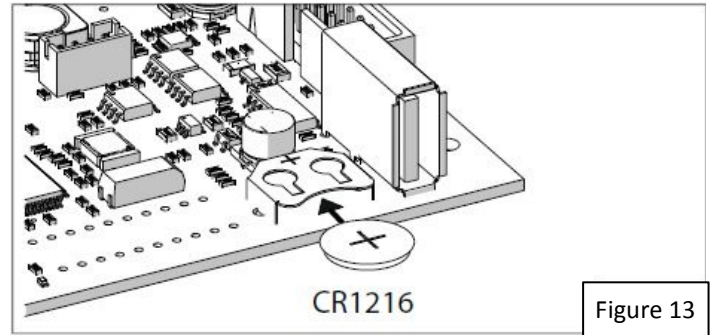

Figure 13
2. Install or replace the CR1216 battery on the Logic board, as shown in Figure 13 .